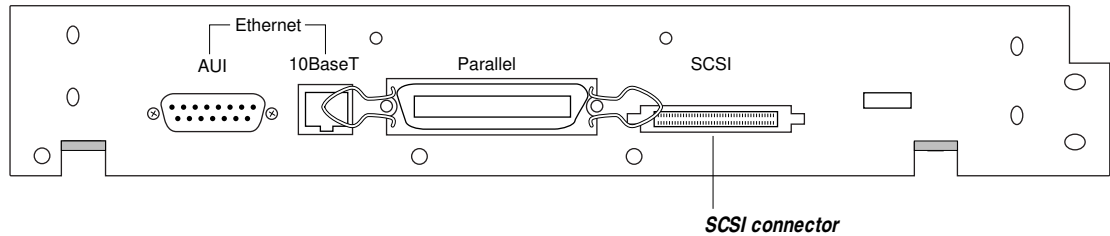

Figure 7-5 Fiery XJ80e connectors on the rear of the copier
6. **Connect the other end of the SCSI cable to the Fiery XJ80e SCSI connector on the back of the copier. See Figure 7-5.**